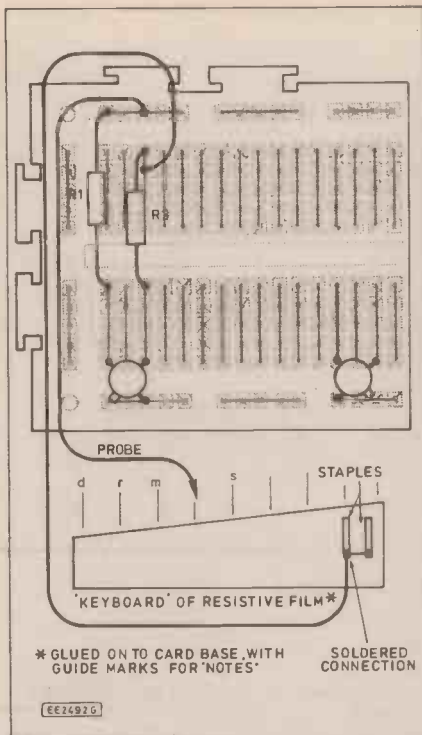

Fig. 5.5 Adding a rudimentary "keyboard" and probe to the circuit of Fig. 5.3.
**T** True again. As a little light relief, here's just about the most elementary circuit I know for an "organ" on which you can actually play a tune. It's only necessary to provide some kind of "keyboard" (it hardly deserves the name as you'll see) which enables us to start and stop the sound, and to control its pitch. Thus to "play" it. (Fig. 5.5)